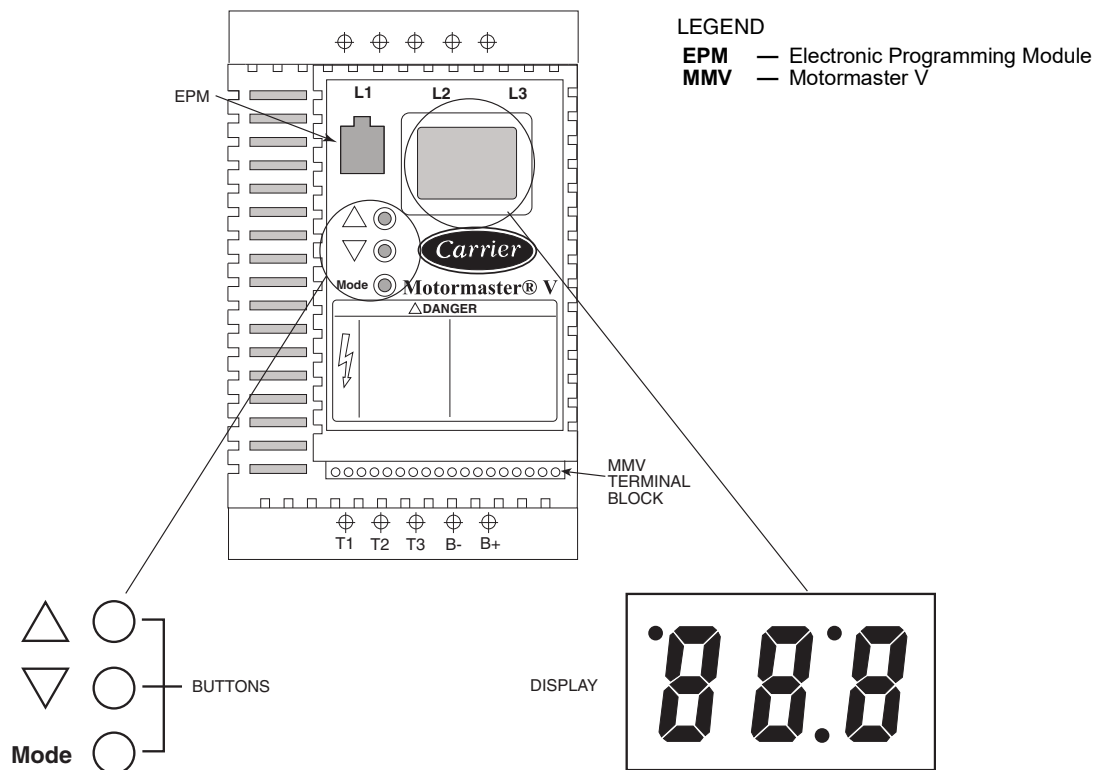

Fig. 59 — Motormaster® V Mode Buttons and Mode Display
The MMV is configured for 1 of 12 operation modes based on the inputs to the control terminal block. The 30RAP units use operating modes 5-8. In these configurations, the MMV follows a 4 to 20 mA speed reference signal present on terminals 25 (+) and 2 (-). The Aux board generates a 2 to 10 vdc signal that is converted to a 4 to 20 mA signal by means of a 240 Ω 1/4 w resistor in series with the positive (+) signal wire. One additional jumper is required to configure the drive for 50/60 Hz operation and input voltage. See Table 41 for proper inputs. Once the drive is powered, it will change to the mode selected according to the inputs. See Fig. 59.
1. To enter the PROGRAM mode to access the parameters, press the Mode button. This will activate the password prompt (if the password has not been disabled). The display will read "00" and the upper right-hand decimal point will be blinking. See Fig. 59.
The drive uses an electronic programming module (EPM) chip to store the program parameters. This is an EPROM memory chip and is accessible from the front of the Motormaster V. It should not be removed with power applied to the VFD. See Fig. 59.